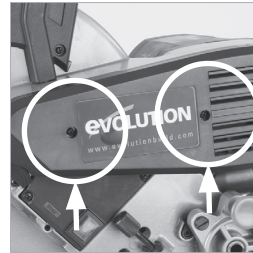

Fig. 46
- To gain access to the transmission case remove the plastic case cover by unscrewing the two (2) cross head screws which hold it in place. **(Fig. 46)**